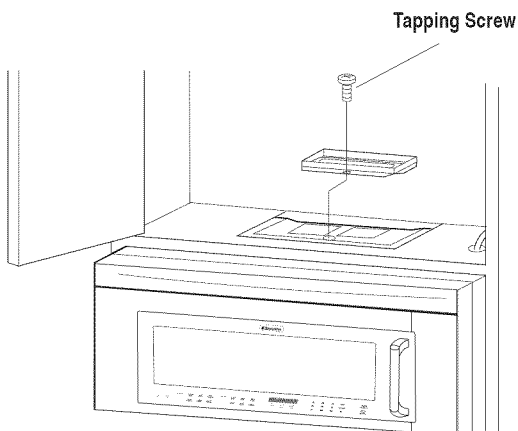

Figure 20
6. Attach the Exhaust Damper Assembly to the fan cover bracket on the top of the outercase cabinet after mounting the oven. To attach the Exhaust Damper Assembly, refer to MOUNTING OVEN TO THE WALL, See Figure 20 on page 7.